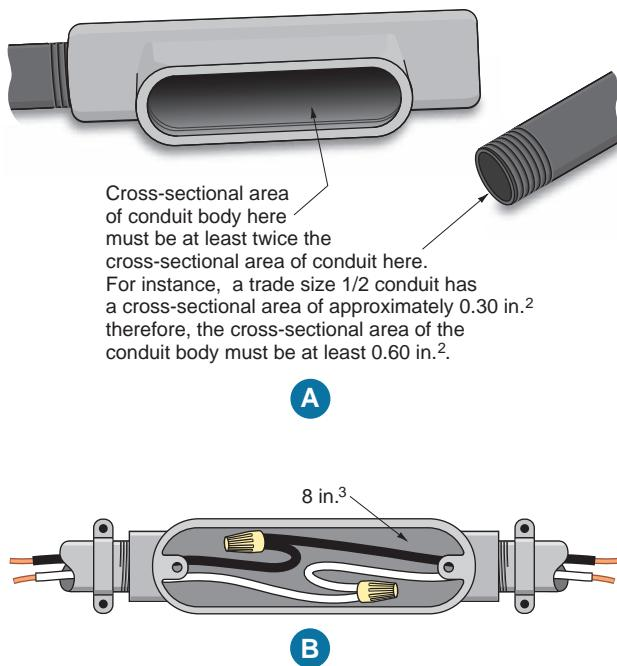

FIGURE 18-12 Requirements for conduit bodies.
- must have a cross-sectional area not less than twice the cross-sectional area of the largest conduit to which it is attached, as shown in Figure 18-12(A). This is a requirement only when the conduit body contains 6 AWG conductors or smaller.
- must not contain splices, taps, or devices unless the conduit body is marked with its in.³ capacity, as in Figure 18-12(B), and the conduit body must be supported “in a rigid and secure manner.”